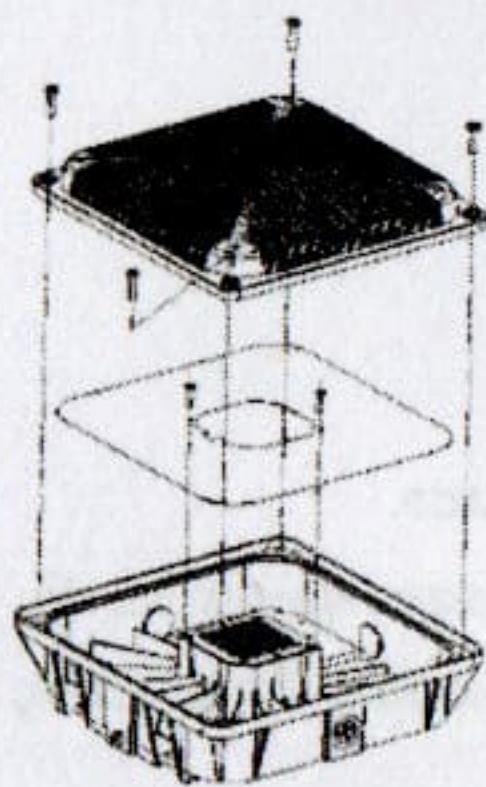

Figure 11
4. Remove the polycarbonate lens and sheet metal reflector (see Figure 11).
10. Reattach the sheet metal reflector and polycarbonate lens to the luminaire housing (see Figure 11).